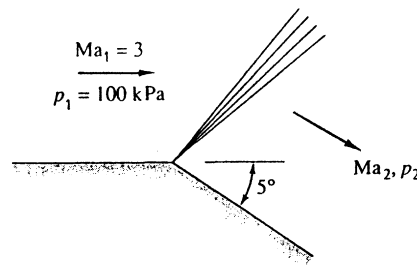

Fig. P9.141
**9.141** Supersonic airflow takes a  $5^\circ$  expansion turn, as in Fig. P9.141. Compute the downstream Mach number and pressure and compare with small-disturbance theory.